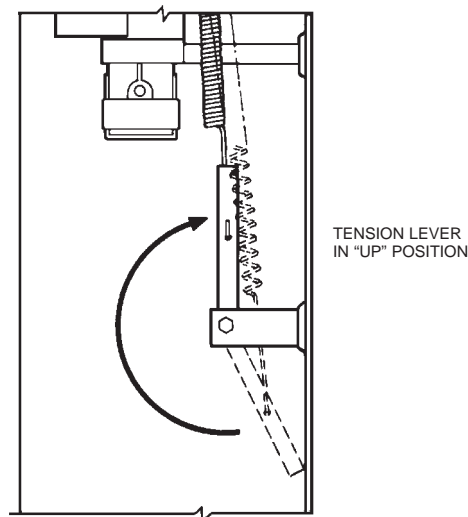

FIGURE 6
17. Raise tension lever to "UP" position. See Figure 6.